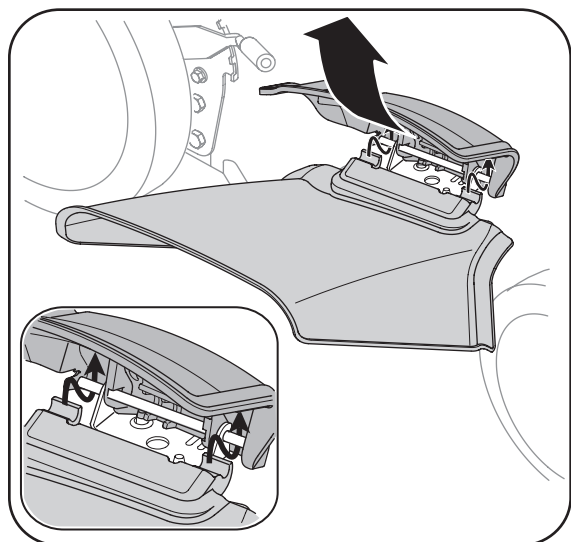

Figure 8
- a. On the side of the mower deck, lift the hinged mulching plug. See Figure 8.